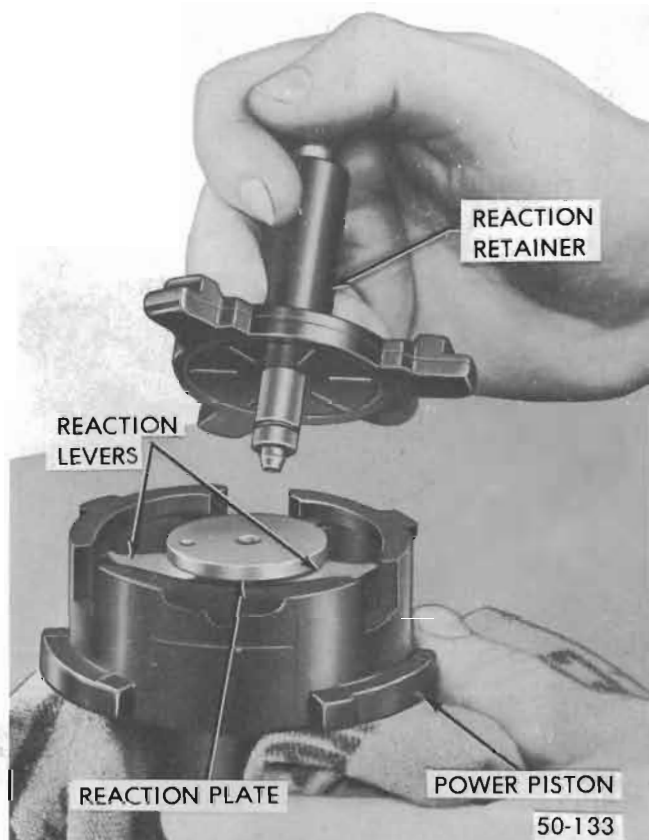

Figure 50-105 Removing Reaction Retainer
4. Remove reaction retainer, piston, reaction plate, three (3) reaction levers and air valve spring. Also remove reaction bumper and air valve spring retainer from air valve. See Figure 50-105.